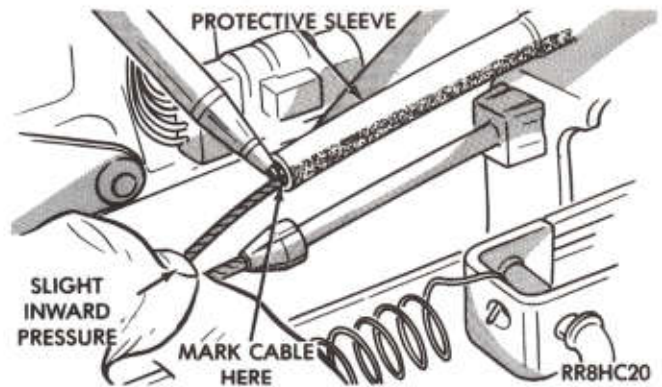

Fig. 8—Push Cable In and Mark at Protective Sleeve
(1) Grip cable core wire and lightly push toward servo.
(2) While lightly holding toward servo, mark core wire next to protective sleeve (Fig. 8).